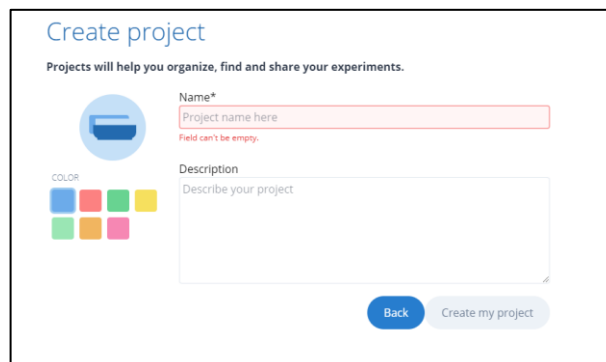

fig. 12. Create a new project by filling in the details.
1. Start the experiment by clicking on the blue “Start experiment” button (fig. 10). The first time you perform an experiment, you are immediately led to the *Create project* page to create a project (fig. 12). Your experiments are automatically stored within a project, which you can view later in the CytoSMART® Cloud. In the *Start a project* page, you can name the project and give it a description. The next step is to assign a colored icon to the project. This helps you to find your project easily, based on the color of the icon. Click the “Create my project” button to finish the setup.